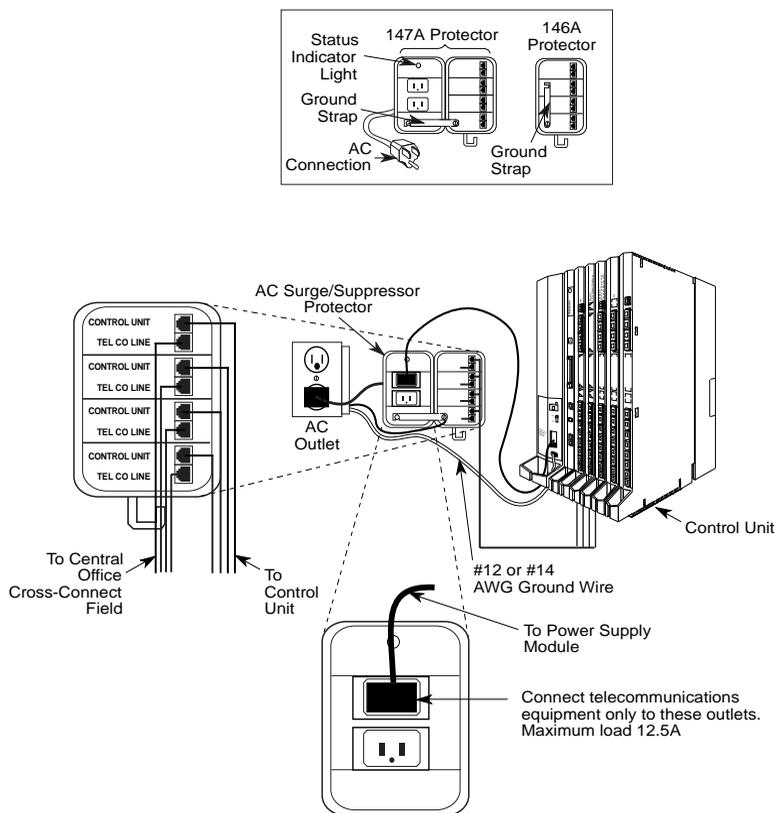

Figure 2-4. Installing 146A and 147A Protectors
- For more than 16 trunks, add another 147A protector and continue adding 146A protectors as needed. See Table 2-3 for various configurations and Figure 2-4 on page 2-16 for a typical 147A protector installation.